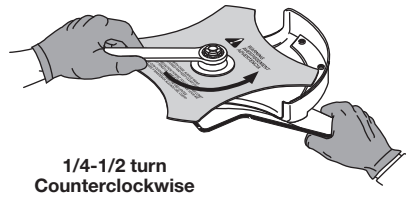

Fig. 13
- Without a torque wrench, use a 1/2 inch closed-end or socket wrench, turning the nut until the blade retainer is snug against the shaft bushing. Make sure that the blade is installed correctly, then rotate the nut an additional 1/4 to 1/2 turn counterclockwise (Fig. 13).